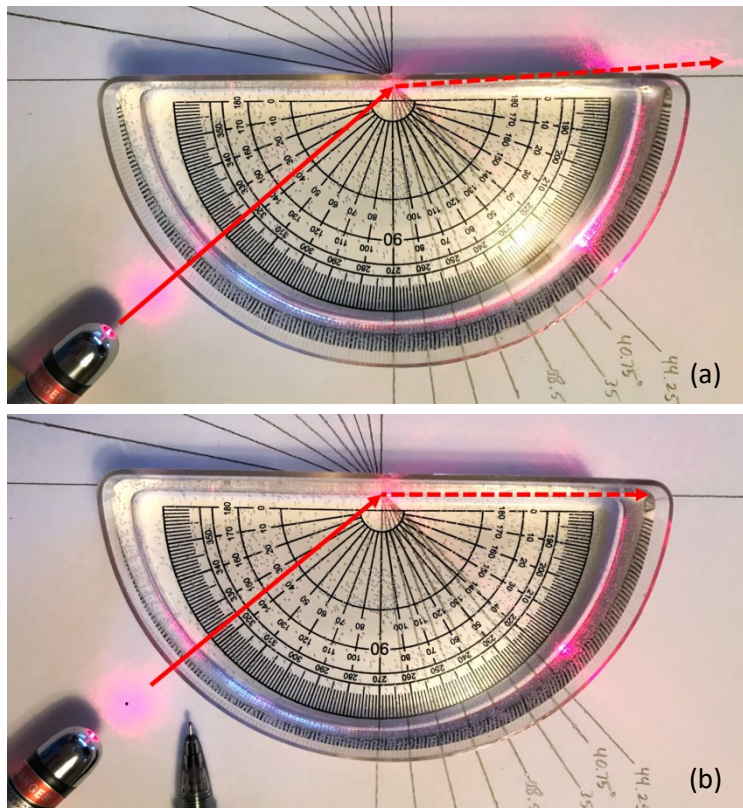

Fig. 11: (a) Laser shining at just greater than the critical angle.
2. Adjust the angle of the incident laser beam until the emerging ray just skims along the air-water interface, transitioning to total internal reflection (see Fig 11).